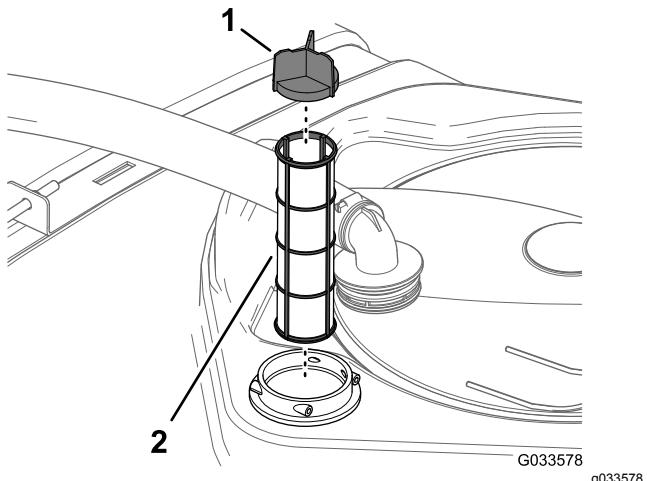

Figure 52
4. Pull the suction strainer out of the filter housing in the tank (Figure 52).